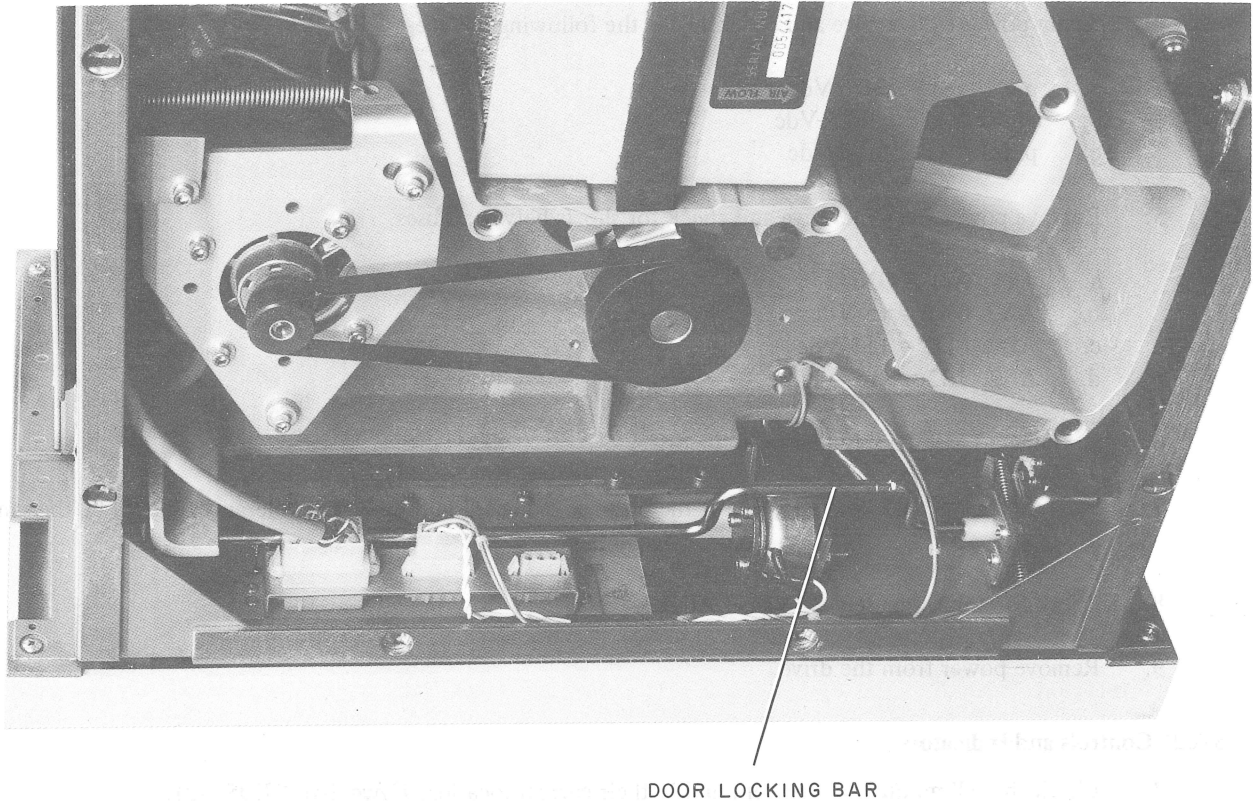

Figure 5-24 Door Locking Bar Location
4. Tape the door locking bar (located behind the front bezel) in the down position (Figure 5-24). This permits the drive front door to be opened and shut without power being applied.